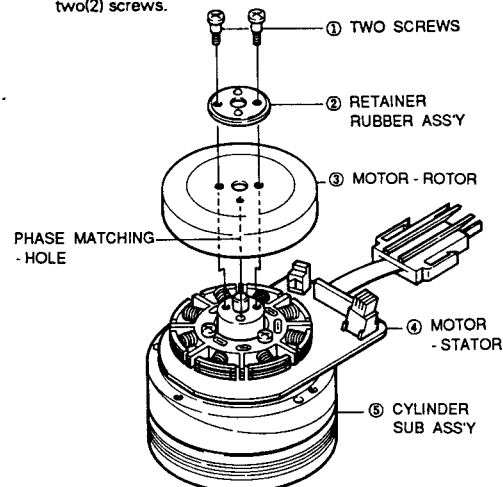

Fig. 16 Assembly of Motor Rotor & Cylinder Sub Ass'y
- 1) Make sure that phase matching holes of the motor rotor & the cylinder sub ass'y are aligned correctly as shown in Fig. 16. (Refer to phase matching hole)
- 2) Reinstall the retainer lever ass'y ② and secure with two(2) screws.